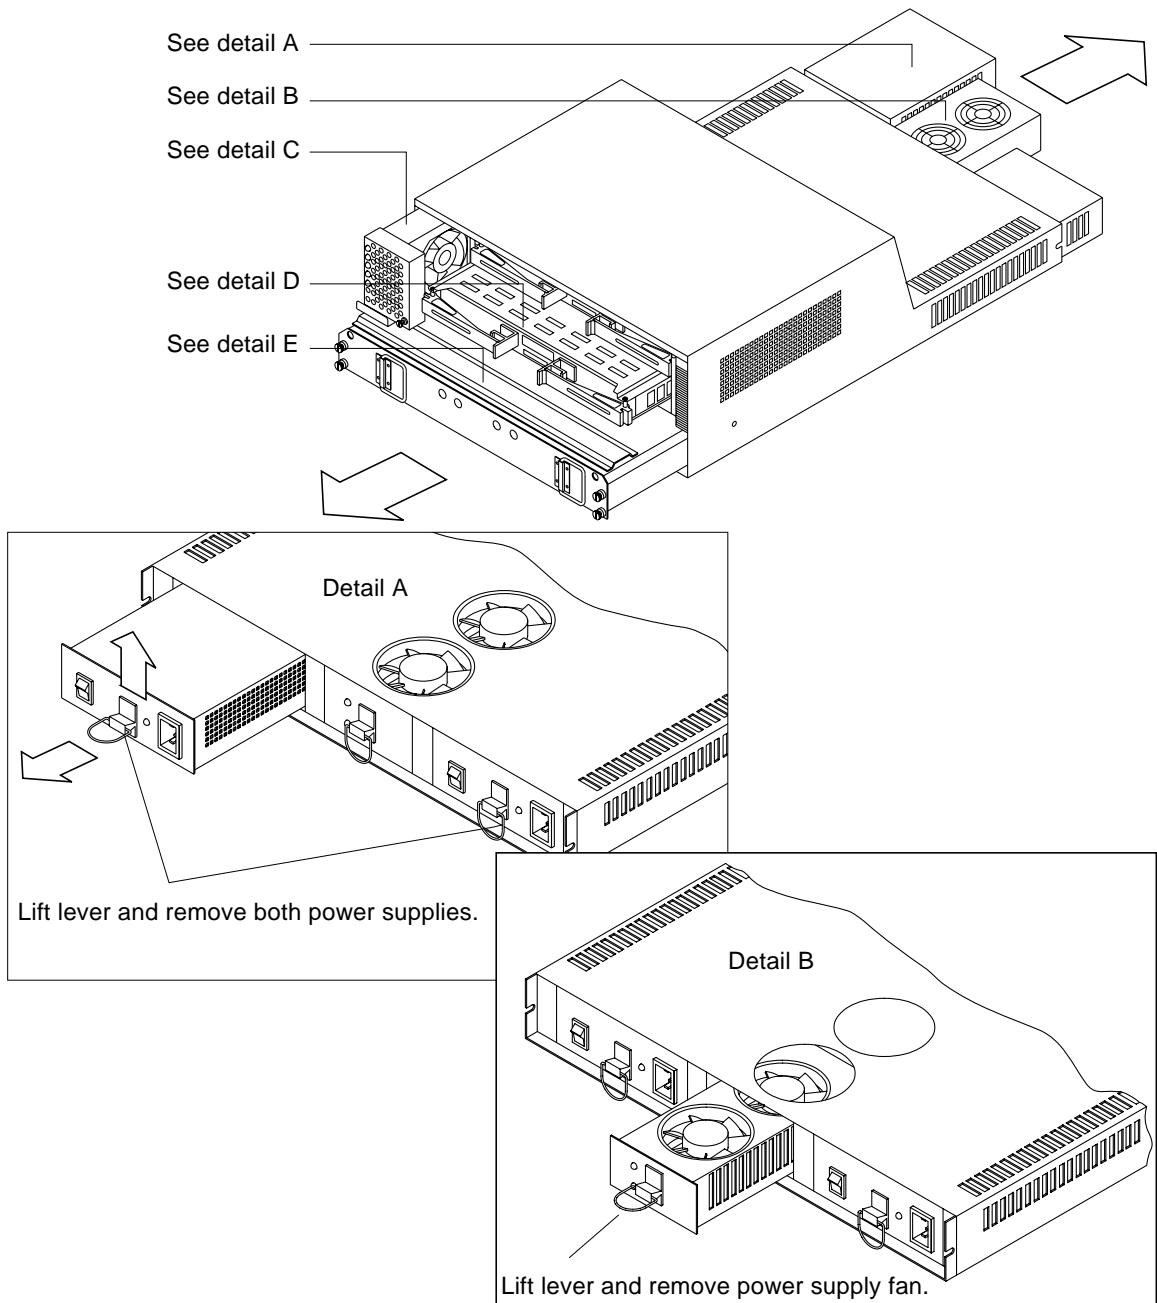
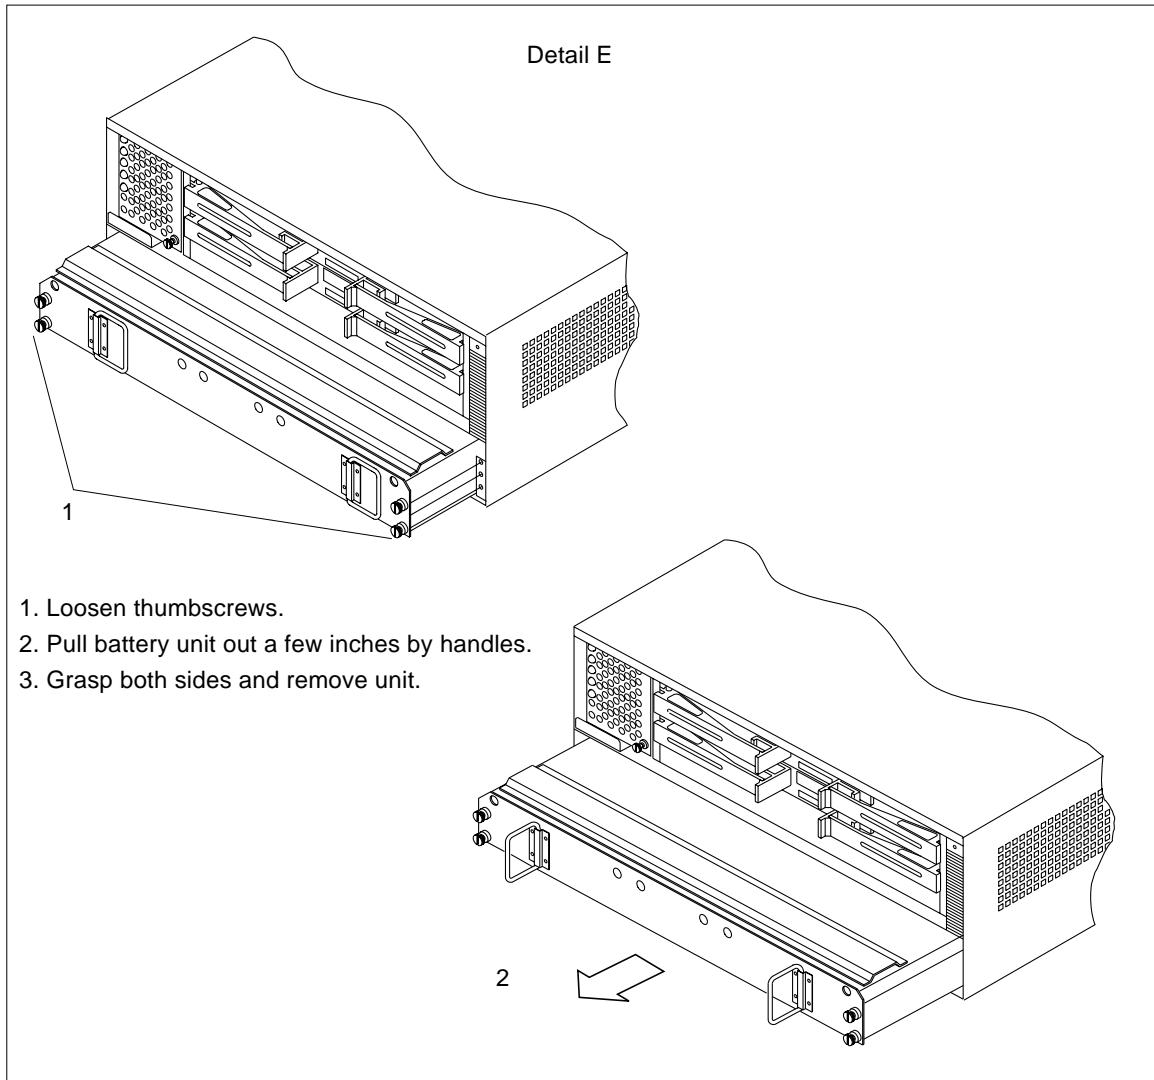

FIGURE 1-10 Removing the Canisters—Power Supplies and Power Supply Fan
FIGURE 1-12 Removing the Canisters—Battery
- 3. Remove the canisters (FIGURE 1-10, FIGURE 1-11, and FIGURE 1-12).**